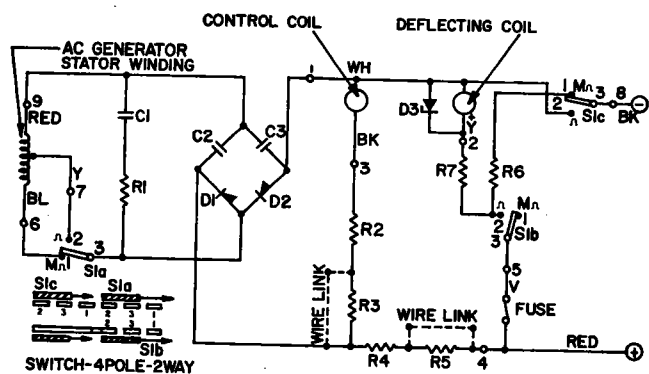

Figure 4-1. Schematic Diagram, Switch Set to Outer Scale (Megohms)
magnet rotor. It is statically rectified to direct current through a voltage doubler rectifying circuit. The rotor runs on oilite bearings which should not require lubrication for the life of the ohmmeter. See figures 4-1 and 4-2.
d. RESISTANCE NETWORK. — Figures 4-1 and 4-2 show the ohmmeter wiring diagrams.
a. Refer to schematic diagram figure 4-1. The AC generator is used in conjunction with a stabilizing circuit and static rectifier. The stabilizing circuit consists of a capacitor connected in series with a resistor across the AC output terminals of the generator, since there is no slipping clutch to regulate the speed. As the generator speed increases, the frequency of the output voltage rises, the reactance of the capacitor becomes lower and more current is drawn from the generator. With a purely resistive load the voltage has to increase before the current drawn can rise. A combination of resistance and capacitance is used in the ohmmeter as the current drawn by the capacitor would otherwise be excessive at certain handle speeds.